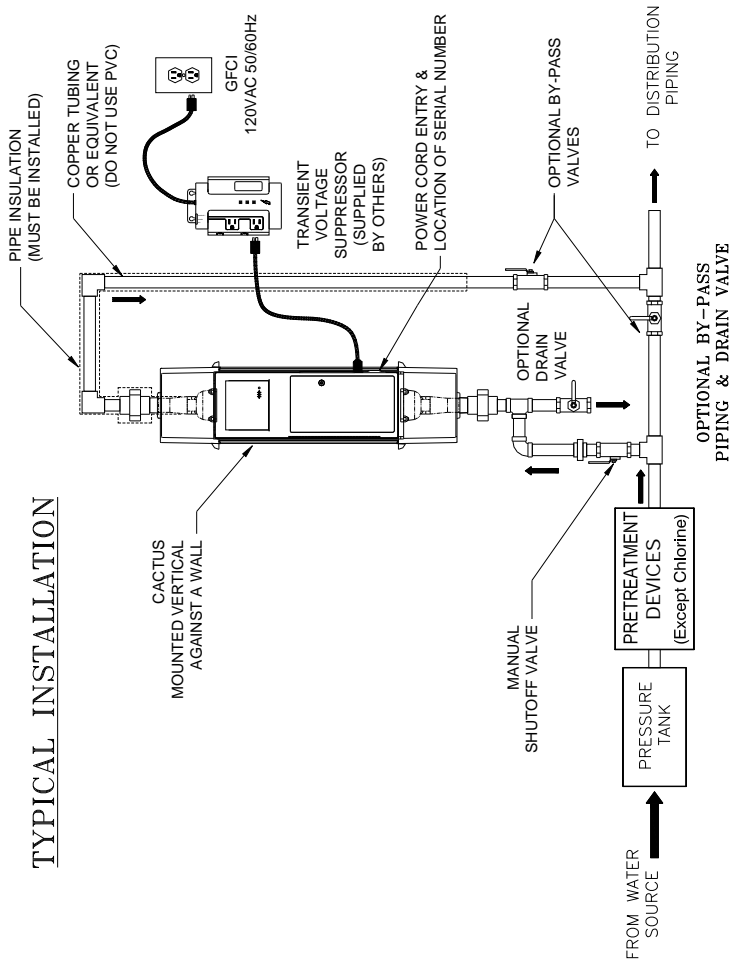

Figure 1B
The UV requires four #12 to 1/4" diameter fasteners (not provided) to mount to a wall. It also requires female 1" NPT fittings for the manifold connections. These fittings, pipe insulation, and any piping compatible with the plumbing should be on hand before you begin installation. See Figure 1B and make a list of all necessary components including solder, paste and thread sealant. By-pass piping and valves that isolate the unit are optional, (but recommended) as is a drain valve for draining the unit. Using a union or a flexible stainless hose at the top and bottom port of the unit is recommended to allow easier maintenance of the unit.
Step 2: If you have decided to install an optional by-pass line and drain, you may begin to install these fittings at this point. See Figure 1B for more information on how to connect optional by-pass piping and drain.